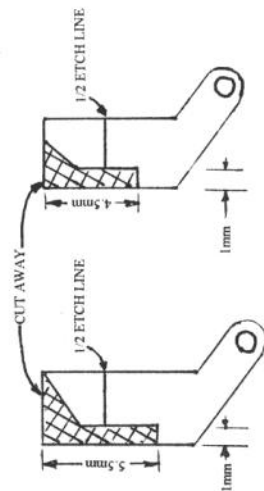
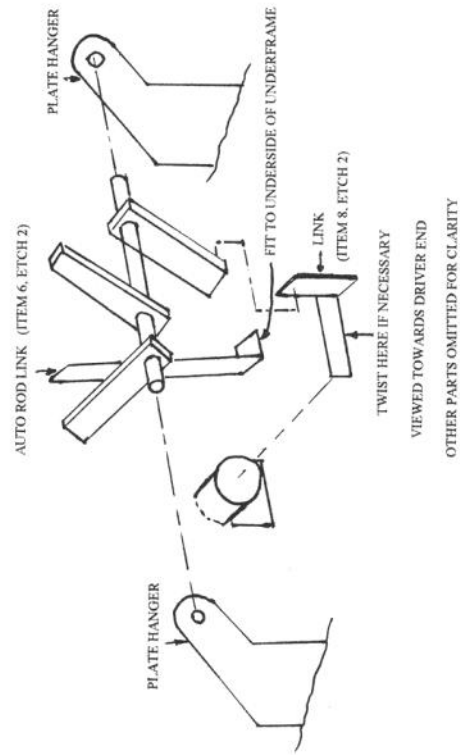
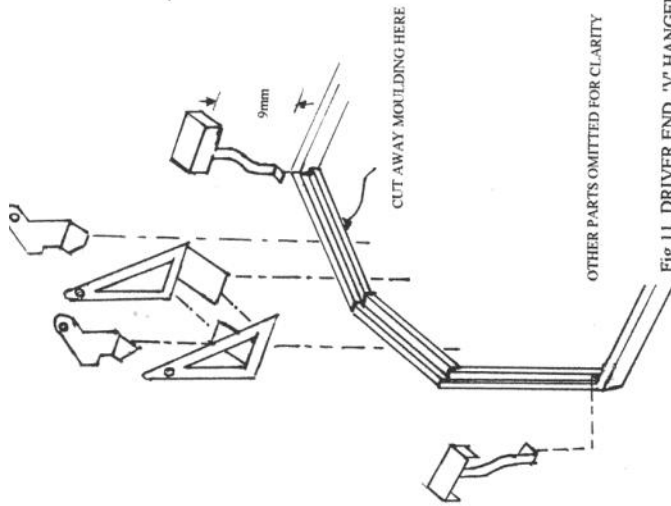

Fig. 9. PLATE HANGERS.
Fig. 10. AUTO ROD LINKAGE.
Fig. 11. DRIVER END, 'V' HANGERS, PLATE HANGERS, CORNER STEPS
g. At the driver end fit the cast parking brake 'V' hangers, Fig. 11, complete with cross shaft shaped
h. Cut the plate hangers, etch 2 items 1, and prepare by cutting away the areas shown in Fig.9. (*Yes! I could have etched out these areas but.....*) and fold the tabs with the half etch on the outside. Ensure the hangers are biased towards the driver end as far as possible. Before fixing the plate hangers, (the shorter plate hanger fits on top of the cast hangers fitted in step 3.3.g) which are cranked towards the loco end, together with the cross shaft, (ensure you assemble the cross shaft the correct way round, Fig. 10.) you are advised to check clearances between the hangers and cross shaft, and the bogie. (It may be necessary to cut away a little of the raised ridge around the edge of the moulding, taking care not to break through to the top Fig.11.).
k. Remove item 8 from etch 2 and fold at the half etch line to 90°. Fit to the inner end of the driver end auto coupling fitted in Step 3.3.j and the auto rod cross shaft fitted in Step 3.3.h, Fig.10.
l. Remove item 6 from etch 2 and fold at the half etch line to 90°. Fit between the underside of the underframe and the lower forward facing crank arm, Fig.10.
t. Remove the corner steps (4) from Etch 1, fold up the sides and rear of the steps, bend the mounting bar at 90° 9mm from the underside of the step as shown in Figs. 11. & 13. With the pair for the Driver End carefully form the mounting bar to a gentle reverse curve and fix in position as shown in Fig 11. At the Loco End the mounting bars are straight, fix the steps in position as shown in Fig. 13.